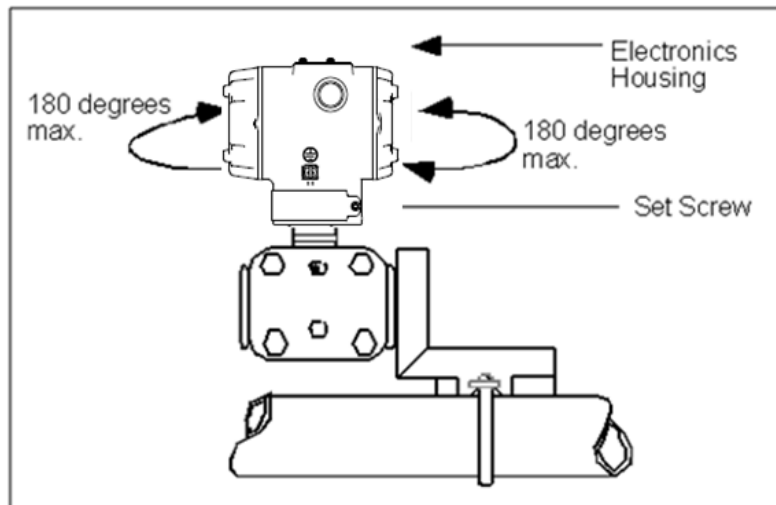

Figure 8 – ST 700 Standard Transmitter - Rotating the Electronics Housing
Once the transmitter is mounted, the electronics housing can be rotated to the desired position. See Figure 8 for details.
3. Loosen the set screw on the outside neck of the Transmitter one (1) full turn.
4. Rotate the Electronics housing a maximum of 180° left or right from the center to the position you require, and tighten the set screw using a 4mm metric socket head wrench. See the following example and Figure 8.